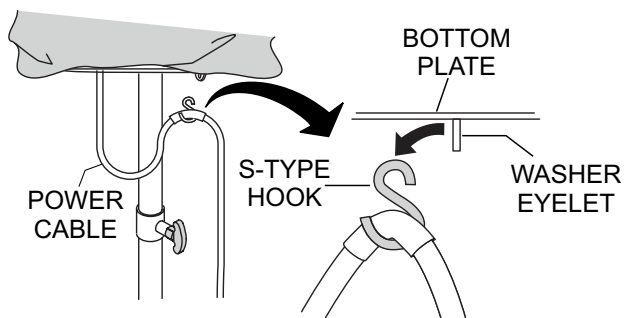

Figure 18. removing Power Cable
2. Remove the S-type hook (Figure 18) on the AC power cord from the washer-eyellet located on the bottom plate of the light assembly.